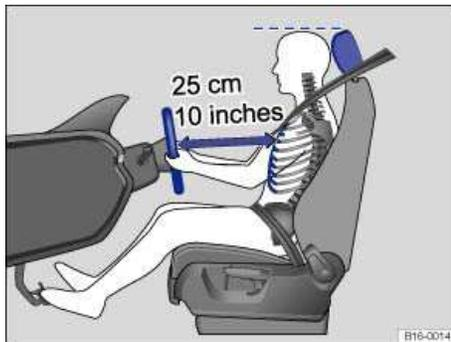
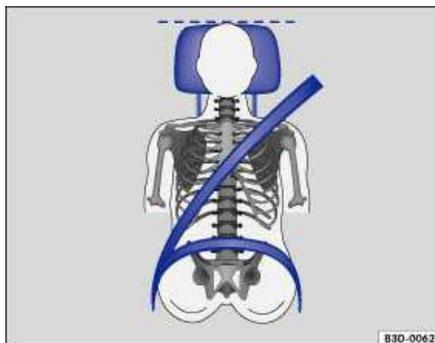

Fig. 43 The driver should never sit closer than 10 inches (25 cm) of the steering wheel.
Fig. 44 Proper safety belt positioning and head restraint adjustment.
- Adjust head restraints so that the upper edge of the head restraint is at least at eye level or higher. Position the back of your head as close as possible to the head restraint ⇒ fig. 43 and ⇒ fig. 44.
- Adjust the steering wheel so that there are at least 10 inches (25 cm) between the steering wheel and your breast bone ⇒ fig. 43. When adjusting the proper distance to the steering wheel, grasp the top of the steering wheel with your elbows slightly bent.